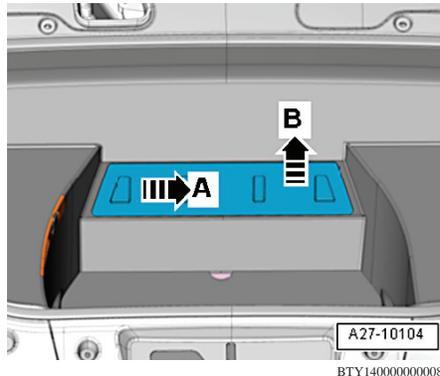

Fig. 1 Battery cover removal
5. Press battery cover to side (arrow A) and remove it upward (arrow B), **Fig. 1**.